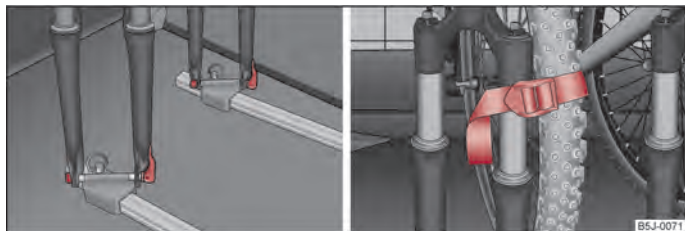

Fig. 58 Put in the bicycle/fastening the front wheel
- Fit the bicycle fork onto the fixing axle and tighten with the quick tension jack ⇒ fig. 58 - left.
- It is best to push the removed front wheel between the crank of the left pedal and the bicycle frame, attach it with a strap to the front fork ⇒ fig. 58 - right, and/or to a fixing point.